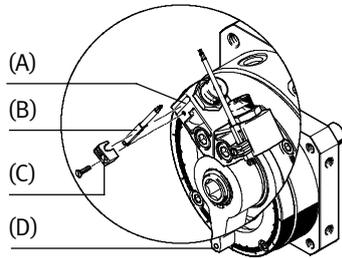
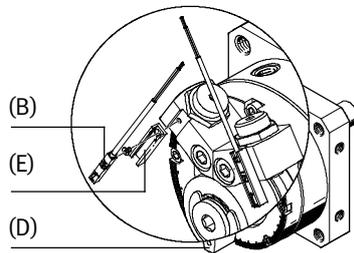

Fig. 21
Fig. 22
- Place the proximity switches (B) as follows (Fig. 21, Fig. 22):